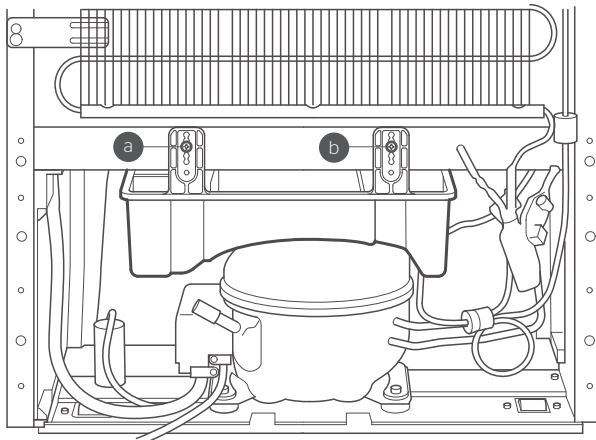

Figure 6
- 1 Remove the vaporisation container by unscrewing the 2 screws (**a** and **b**) (Figure 6)